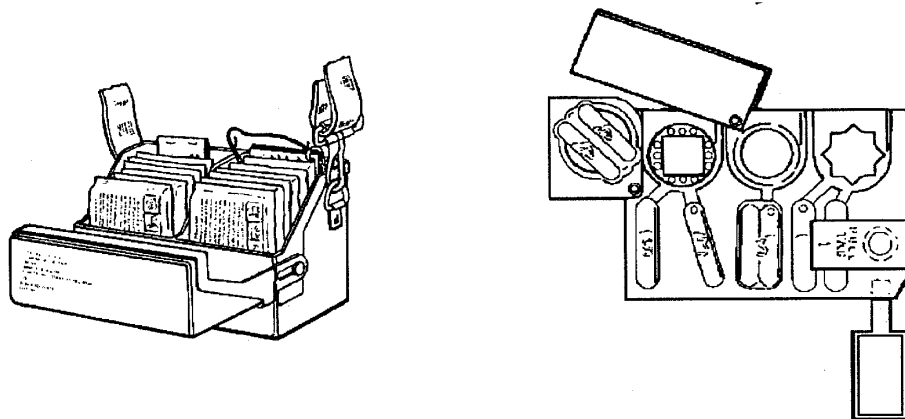

Figure 6-8. M256 Chemical Agent Detector Kit
d. The M256-series chemical agent detector kit (Figure 6-8) is issued at squad, crew, or section level. It provides a squad-level ability to detect and identify field concentrations of nerve blister, or blood agent vapors. It differentiates between classes of agents and helps determine when unmasking may be safe after a chemical attack. The kit consists of 12 individually packaged samplers/detectors, a set of instruction cards, and a packet of ABC-M8 VGH chemical agent detector paper. These components come packed in a small, compact, plastic case. Each sampler/detector detects harmful vapor concentrations of nerve, blister, and blood agents. It changes color upon contact with chemical agents at concentrations hazardous to an unmasked person. See TM 3-6665-307-10 for further information.